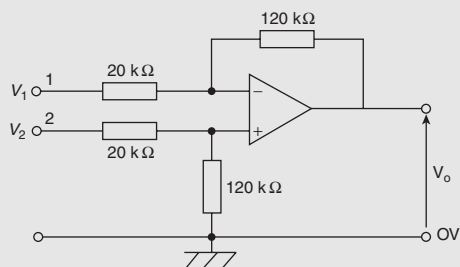

Figure RT5.2
- In the differential amplifier shown in Figure RT5.2, determine the output voltage, V_o when:
- A filter section is to have a characteristic impedance at zero frequency of $600\ \Omega$ and a cut-off frequency of 2.5 MHz. Design (a) a low-pass T-section filter, and (b) a low-pass π -section filter to meet these requirements. (6)
- Determine the cut-off frequency and the nominal impedance for a high-pass π -connected section having a 5 nF capacitor in its series arm and inductances of 1 mH in each of its shunt arms. (4)